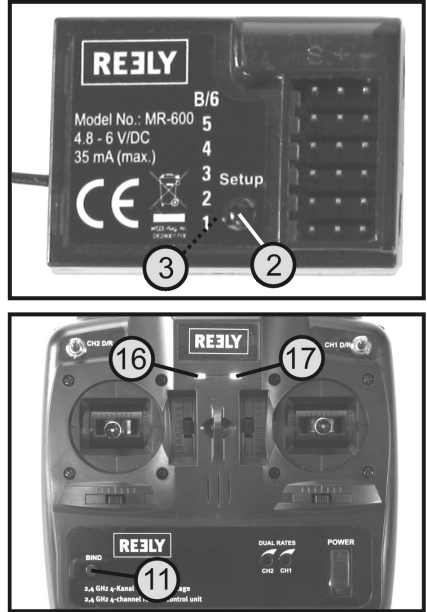

Figure 20
- Push the setup button at the receiver (see figure 20, item 2) until the LED in the receiver (see figure 20, item 3) flashes slowly.
- The LED in the receiver (see figure 20, item 3) briefly flashes fast and then remains permanently lit.